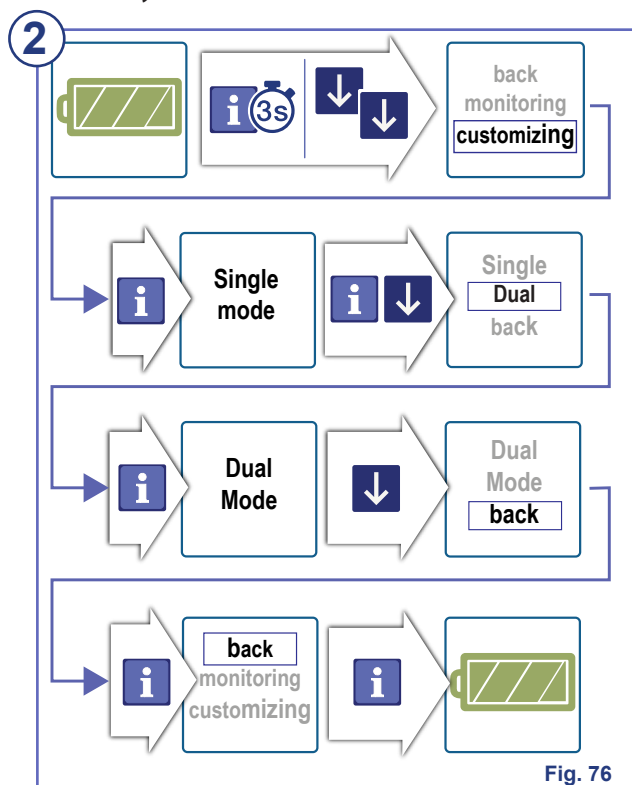

Fig. 76
2) Follow the steps shown in Fig. 76 to set the Maxi Sky 2 Plus in Dual Mode.